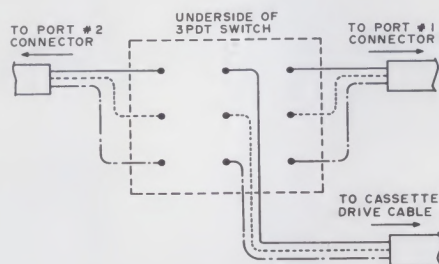

Fig. 4. Switch connections.
Step 4. Connect the three sets of wires to the switches as shown in Fig. 4. Connect the read, sense and motor lines to a separate pole of the switches. The wires from the second cassette port go to one side of the switch; those from the first cassette port go to the other side of the switch. The wires from the tape drive cable go to the middle lugs of the switches.